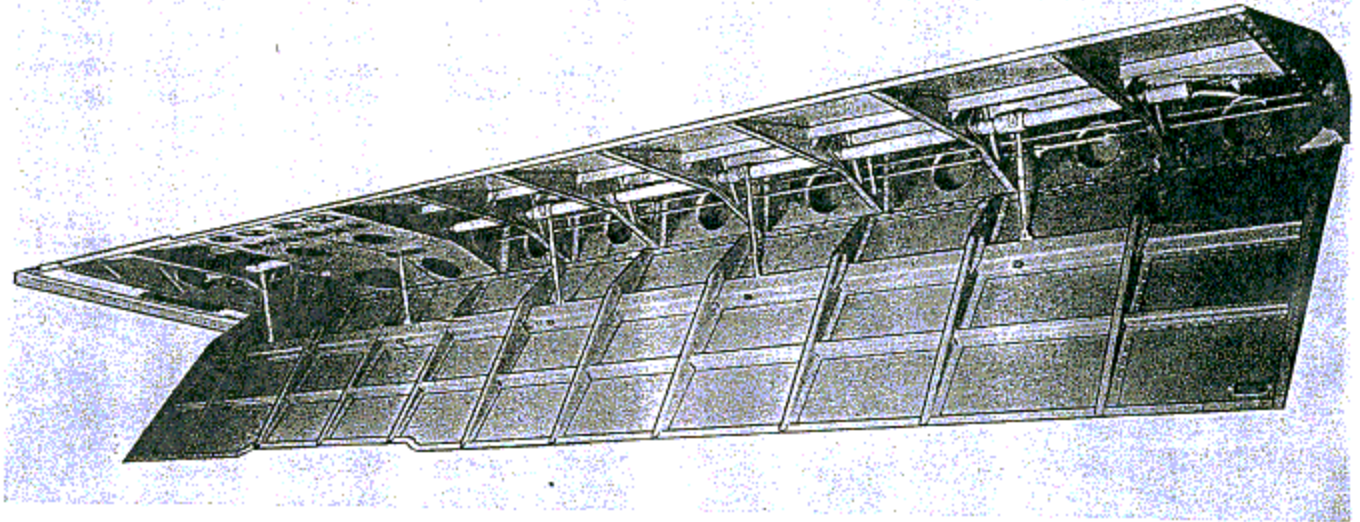
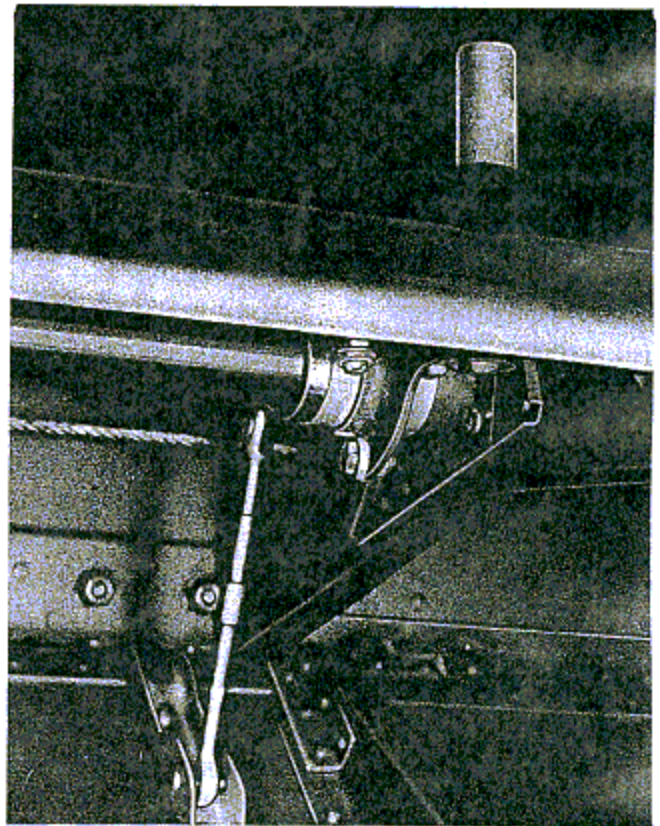

Figure 83—Wing Flap—Open 45 Degrees
Figure 84—Wing Flap Position Indicator
(1) **DESCRIPTION.** — Hydraulically-operated, split trailing edge flaps extend from within a few inches of the airplane center line to the inboard ends of the ailerons on the under surface of the wings. They are attached to the wing by continuous hinges running the full length of each flap. (See figure 83.) A wing flap position indicator is installed inside the left wing panel trailing edge and is linked to the flap. When the flap is lowered, a peg, which can be seen from the cockpit, extends above the top surface of the wing and indicates the angular deflection of the flaps. When the wing flaps are closed the peg is retracted flush with the top surface of the wing. The position indicator linkage is provided with a turnbuckle for adjustment. (See figure 84.)
(4) ADJUSTMENT OF FLAP POSITION INDICATOR. (See figure 84.)—With the flaps fully extended, adjust the turnbuckle to make the position indicator read "45 degrees." Raise the flaps and check the position of the indicator. It should be flush with the wing surface. Readjust the turnbuckle if necessary to bring the top of the indicator flush with the wing skin.